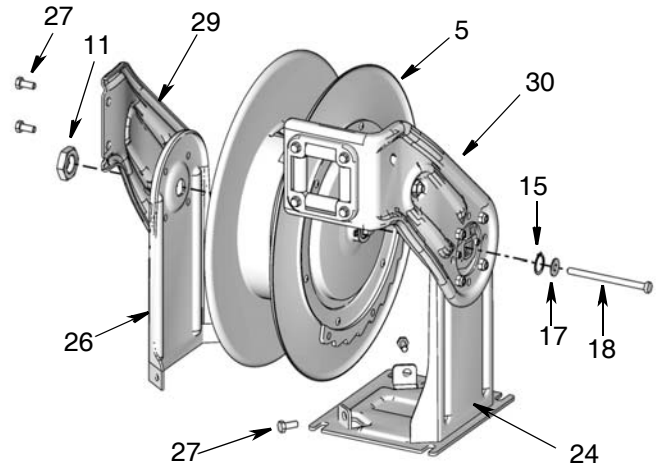
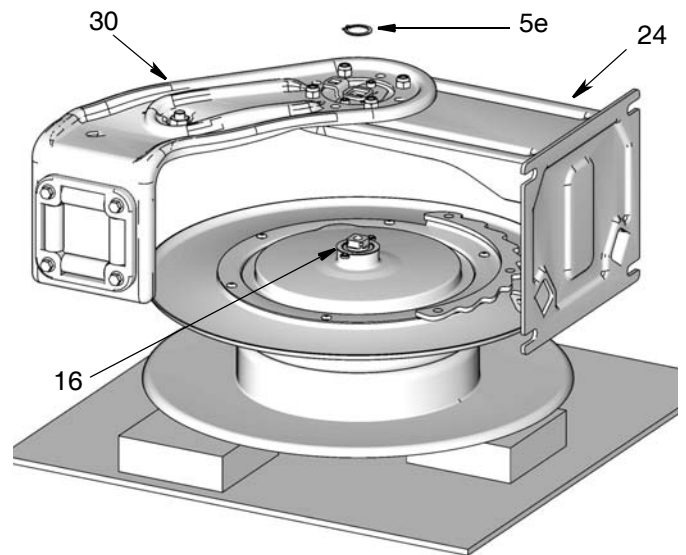

FIG. 16
FIG. 17
5. Remove large nut (11) (FIG. 16).
6. Remove two screws (27) holding pedestal (26) to base (24) and two screws (27) holding guide arm (29) to guide arm (30) (FIG. 16).
7. Completely remove guide arm and pedestal assembly (26 / 29) and set it aside to reinstall on the new spool (FIG. 16). These parts do not have to be disassembled.
8. Lay hose reel on its side so you can easily access the guide arm and pedestal (24 / 30). Remove long bolt (18) and washers (15 / 17) (FIG. 16 and FIG. 17).
9. Remove snap ring (5e) (FIG. 17).
12. Place new spool (5) on its side on a work bench. Make sure the flat side of the spool faces down on the table and the ratchet side is facing up, as shown in FIG. 17.
**NOTE:** It is easier to reattached the guide arm and pedestal assembly to the spool if the spool is supported and somewhat level. Placing a couple blocks of 1" thick scrap wood under the spool as shown in FIG. 17 (page 21) will help support the spool during the arm installation.
16. Install washers (15 / 17) and long bolt (18), but do NOT tighten bolt.
19. Install large nut (11) (FIG. 16, page 21). Tighten and torque nut to 85-105 ft. lbs (378 - 467 N.m).
20. Tighten bolt (18).
21. Align guide arm (29) and guide arm (30). Install screws (27). Tighten and torque screws to 20-30 ft. lbs (89 - 133 N.m).
22. Align pedestal assembly (26) to base (24). Install 2 screws (27). Tighten and torque screws to 20-30 ft. lbs (89 - 133 N.m).